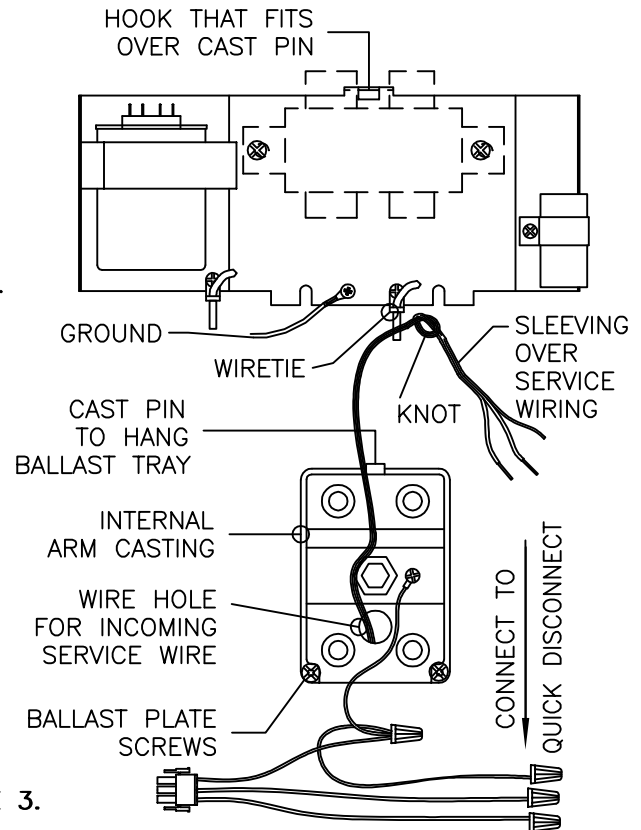

FIGURE 3
1. SLIP (2) 12 INCH SLEEVES (PROVIDED WITH THE FIXTURE) ON THE SERVICE WIRES. THE GROUND WIRE DOES NOT REQUIRE THE SLEEVING. THE SLEEVING SHOULD BE ON THE SERVICE WIRING THAT IS INSIDE THE FIXTURE. **SEE FIGURE 3.**
6. AFTER SECURING THE WIRING, TIE A KNOT IN ALL THREE OF THE SERVICE WIRES NEAR THE WIRE TIE. MAKE THE KNOT AS CLOSE TO THE WIRE TIE AS POSSIBLE. THIS IS FOR STRESS RELIEF. **SEE FIGURE 3.**